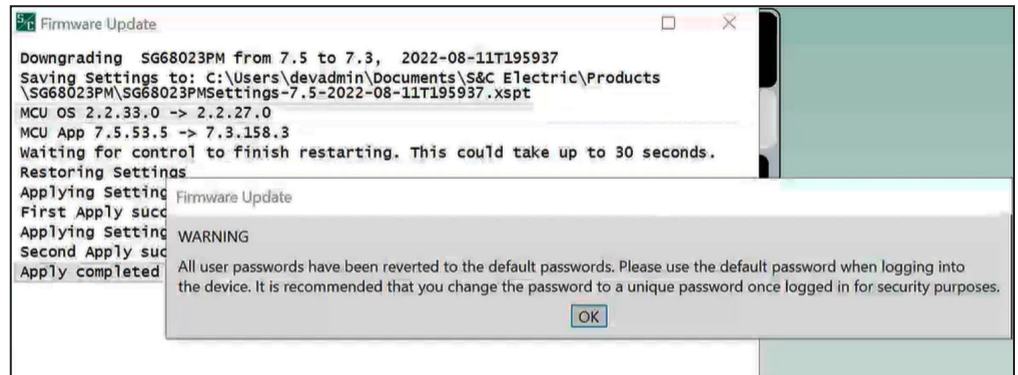

Figure 49. The message that appears after reverting passwords to defaults after a downgrade process completes.
STEP 20. When downgrading from a software version of 7.3.100 or later to a software version 7.3.x or earlier, a message will appear about the passwords being reverted to defaults after the downgrade process completes. Click on the **OK** button to proceed. See Figure 49.